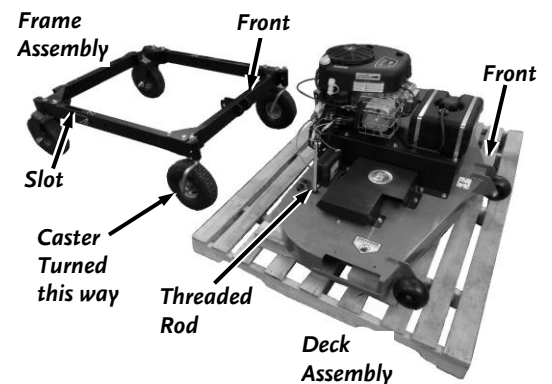

Figure 8
5. Place the Frame Assembly as shown with the Caster Wheels next to the back of the Deck Assembly. Turn the Casters toward the rear wheels (**Figure 8**).